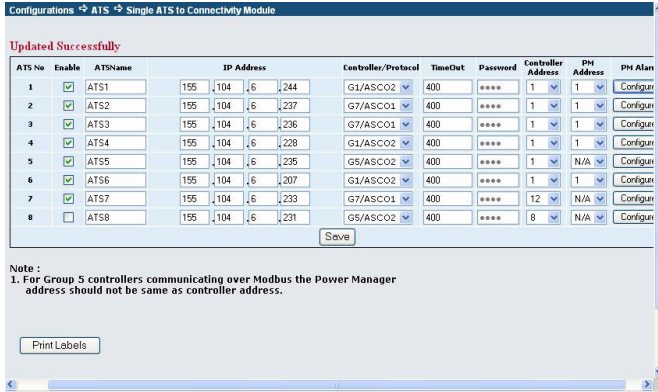

Figure 22: Updated Successfully screen
Modbus Notes: The password entered (Figure 22) for each ATS must be the same as the password set in that ATS's Group 5 controller. The passwords can be all the same or there can be 8 different passwords depending upon the passwords set in the G5 controllers. Refer to User's Guide 381333-126.
- When all ATS configurations are made, click **Save** to upload the configuration to the ATS Remote Annunciator. An *Uploaded Successfully* screen should appear. See Figure 22. The ATS Remote Annunciator should now be monitoring the ATSs (observe the status lights).
- Click the **Save** button to save all configurations to the ATS Remote Annunciator. See Figure 22.
After the configurations are done and saved, you can print custom labels for the ATS Remote Annunciator (Figure 1 on page 2). A printer must be connected to the laptop computer that is used for setting the configurations. Click the **Print Labels** button at the bottom of the screen. See Figures 22 and 25.